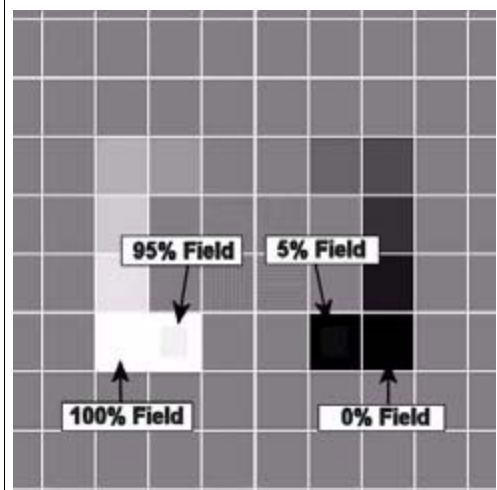

Fig. 18: MEMOSKOP SMPTE test pattern
- The image geometry must correspond to the illustration (Fig. 18 / p. 32).